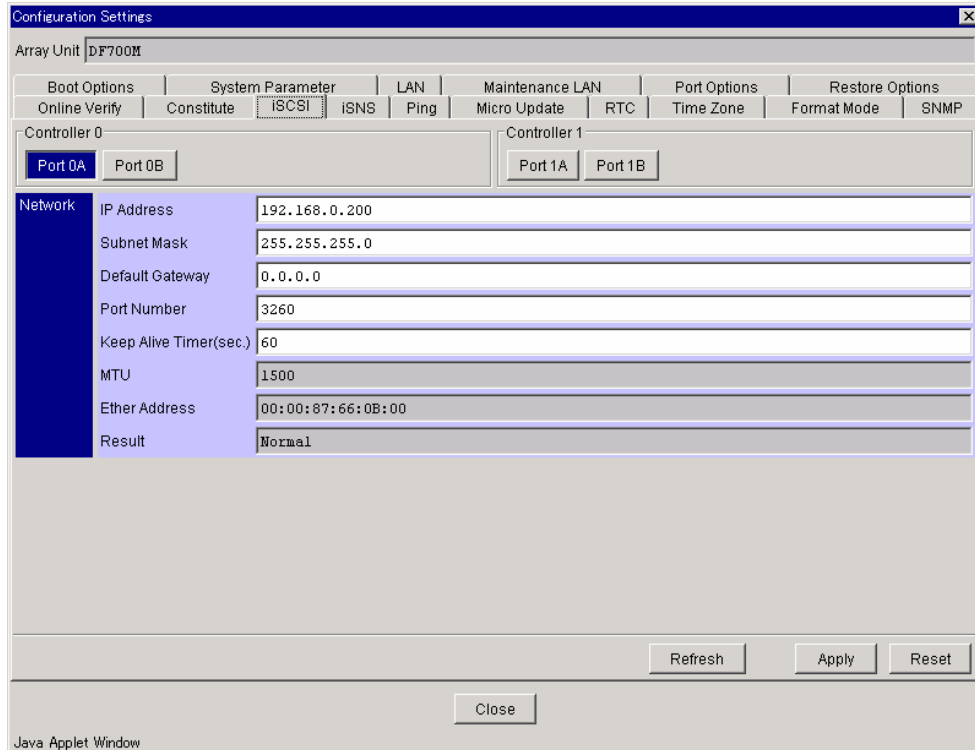

Figure 9.3 Configuration Settings - iSCSI
2. Click the **iSCSI** tab. See Figure 9.3.